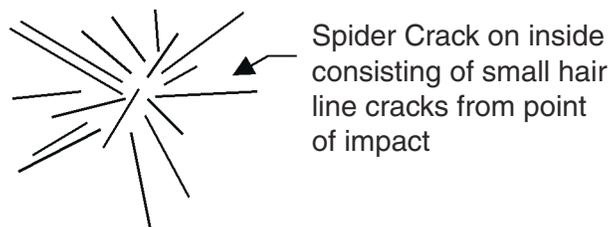

Figure 1
1. Spider Cracks: Generally these can occur on the back heel of elbows. If someone drops the elbow, a “Spider Crack” (small cracks in the liner emanating from the impact point on the exterior surface) develops in the corrosion resistant liner as shown below. (See figure 1.)